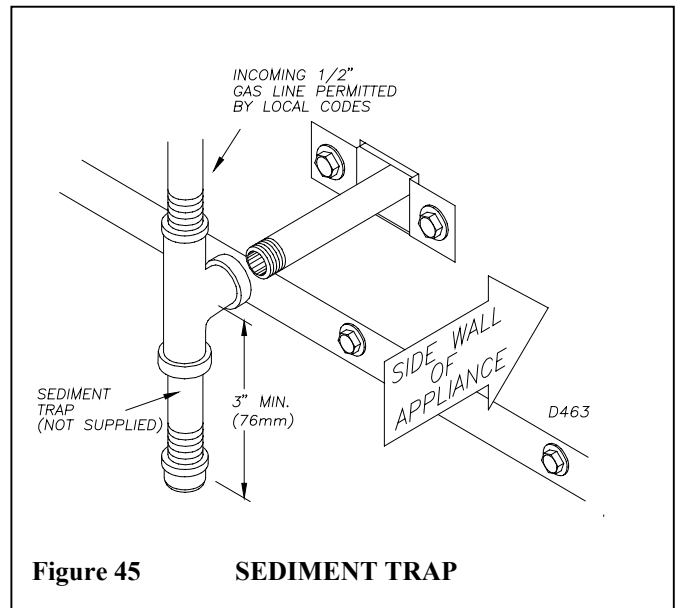

Figure 45 SEDIMENT TRAP
Route a 1/2" NPT GAS LINE towards the appliance coming in from the back of the appliance. If the installation permits you may alternately route your incoming gas line coming in from the bottom of the appliance towards either end. It is recommended to route the gas pipe from the back of the fireplace if possible (see figure 45).
1. Install a sediment trap between the incoming gas line and the gas control valve (see figure 45). The sediment trap should extend down the center of the pipe. Refer to your local codes.